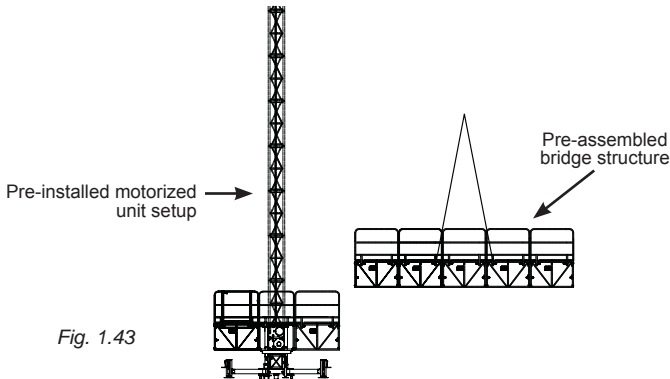

Fig. 1.43
- 2- With the help of a crane or a forklift, align the assembled bridge structure with the pre-installed motorized unit (fig. 1.43, p. 23). Bolt the bridge structure to the motorized unit.
\* For illustration purposes only, appropriate cribbing is not shown under the motorized unit in fig. 1.43